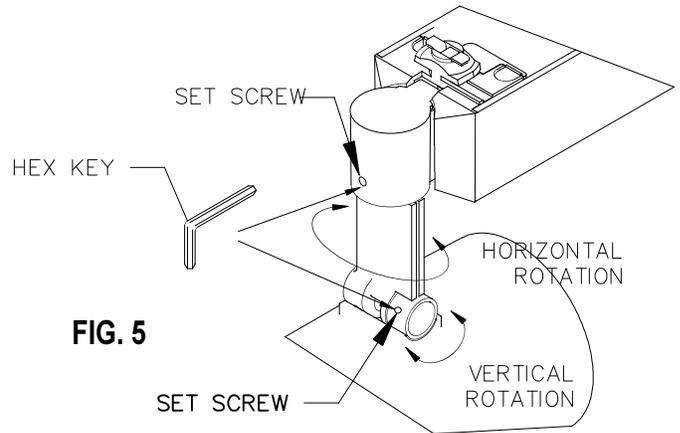

FIG. 5
1. Adjust VERTICAL and HORIZONTAL aim (FIG. 5).